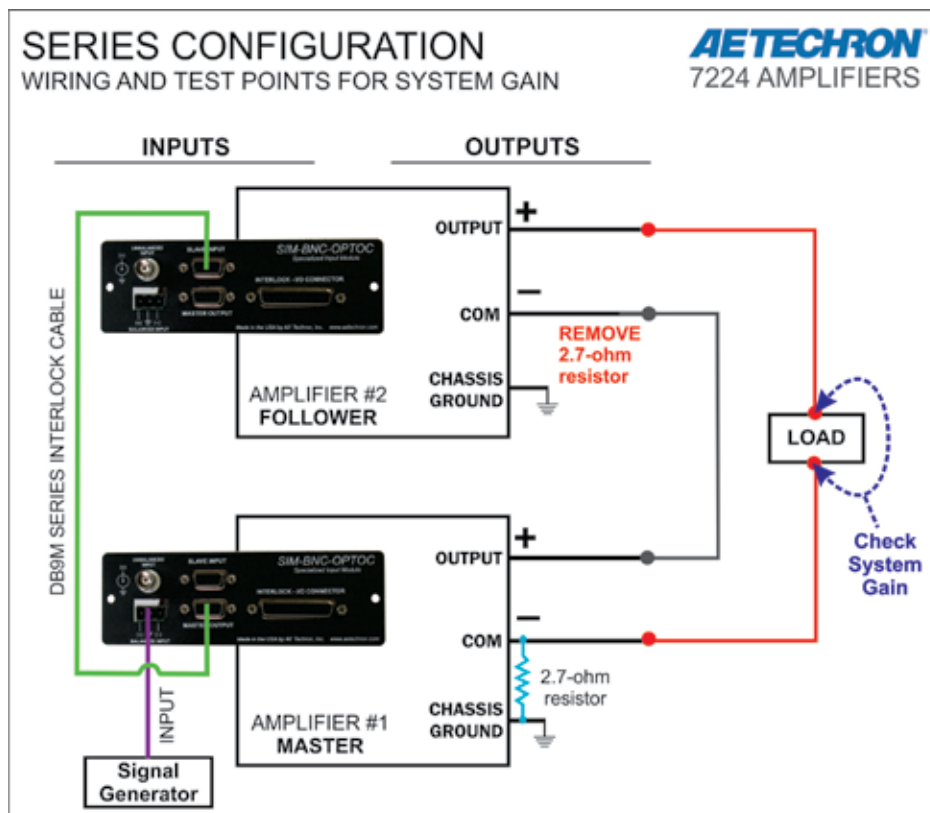

Figure B.2.42 – Wiring and Test Points for System Gain
- D. Apply a sine wave of 5Vrms at 100 Hz at the Master amplifier input. Using a voltmeter, measure across the system load to verify an output from the system of approximately 200Vrms. See **Figure B.2.42**.